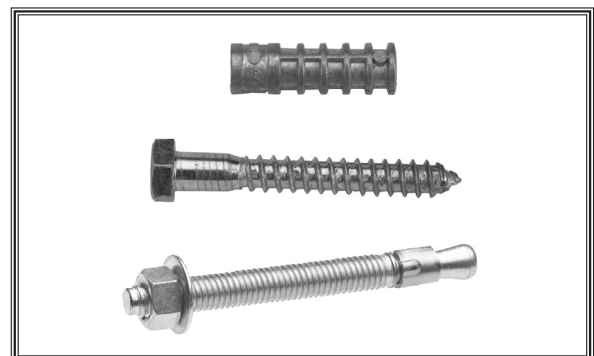

Figure 11. Floor fasteners.
1. Read **Pages 9 & 11** to prepare the lathe/mill location, and install or prepare holes for any floor mounting fasteners (**Figure 11**).